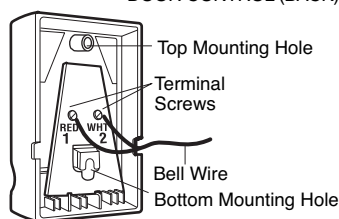

Figure 4 REMOVE COVER
2. Remove cover by gently prying at slot in the top of the cover with a small flat head screwdriver (Figure 4). Fasten with 6ABx1-1/4" self-tapping screws (drywall installation) or 6-32x1" machine screws (into gang box) as follows: